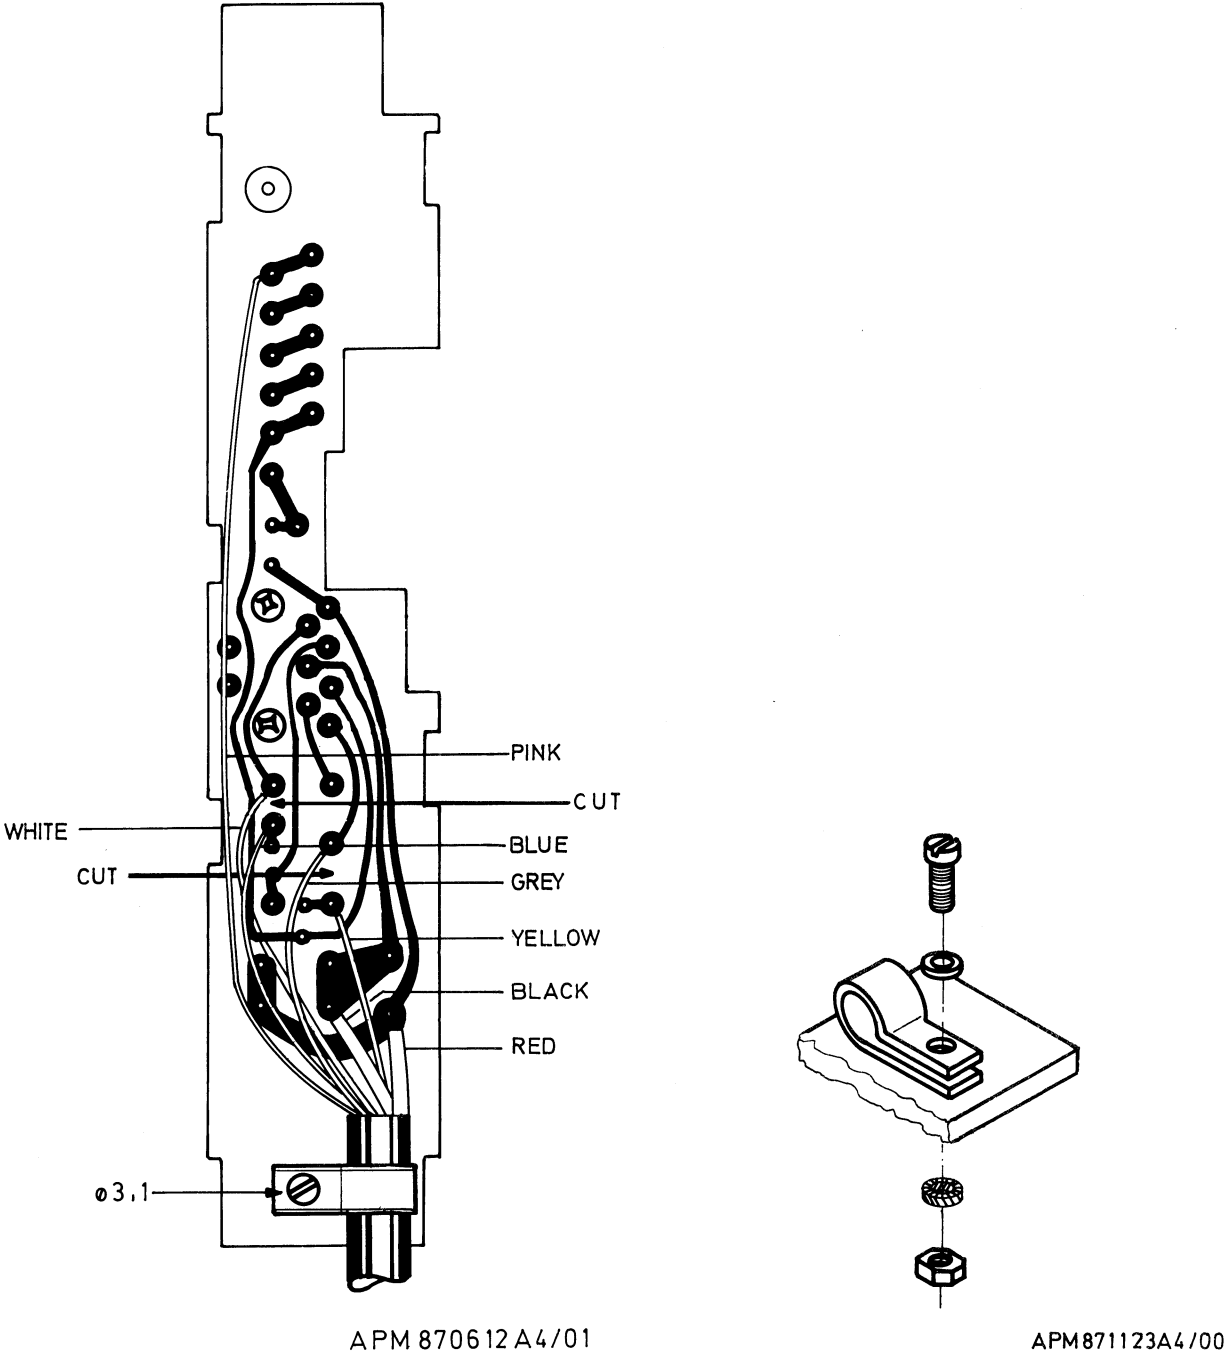

Fig. 9 Connections from the VOX electronic unit to the mounting cassette
- Remove the two print straps S3 and S4 see fig. 8 and fig. 9.
- Connect the 7 wires from the VOX electronic unit to the print M-301 see fig. 8 and fig. 9.